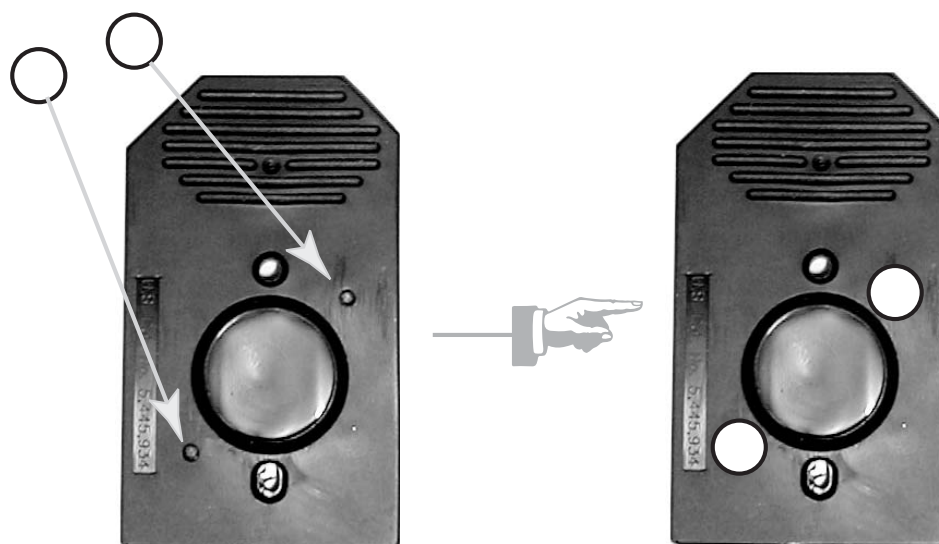

Figure 2.4.1
2. Carefully apply one Tough-Spots to each of the two septa. Press to ensure that the spots remain flat. If the Tough-Spots do not apply smoothly, that is, if you observe bumps, bubbles, tears, or curled edges, do not attempt to smooth out the spot. Remove the spot and apply a new spot. See Figure 2.4.1.